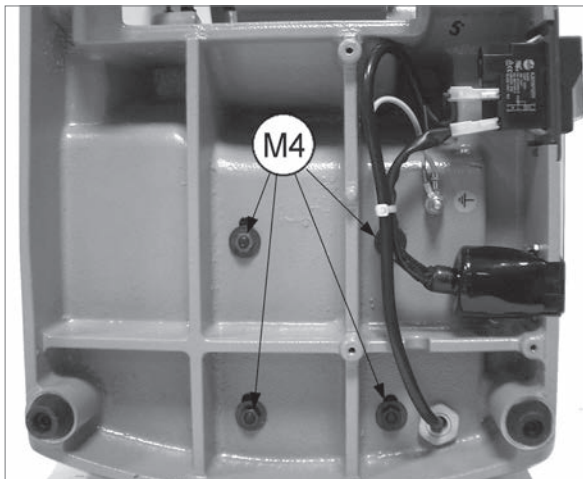

Fig. 44
- 4) Loosen and remove the 4 motor fixing nuts (Fig. 44).